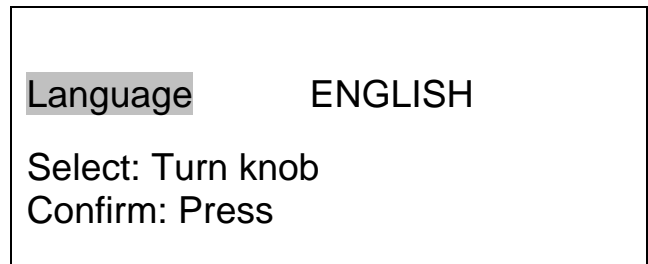

Fig. 28
- The display (fig. 28) now shows the terms in the desired language.